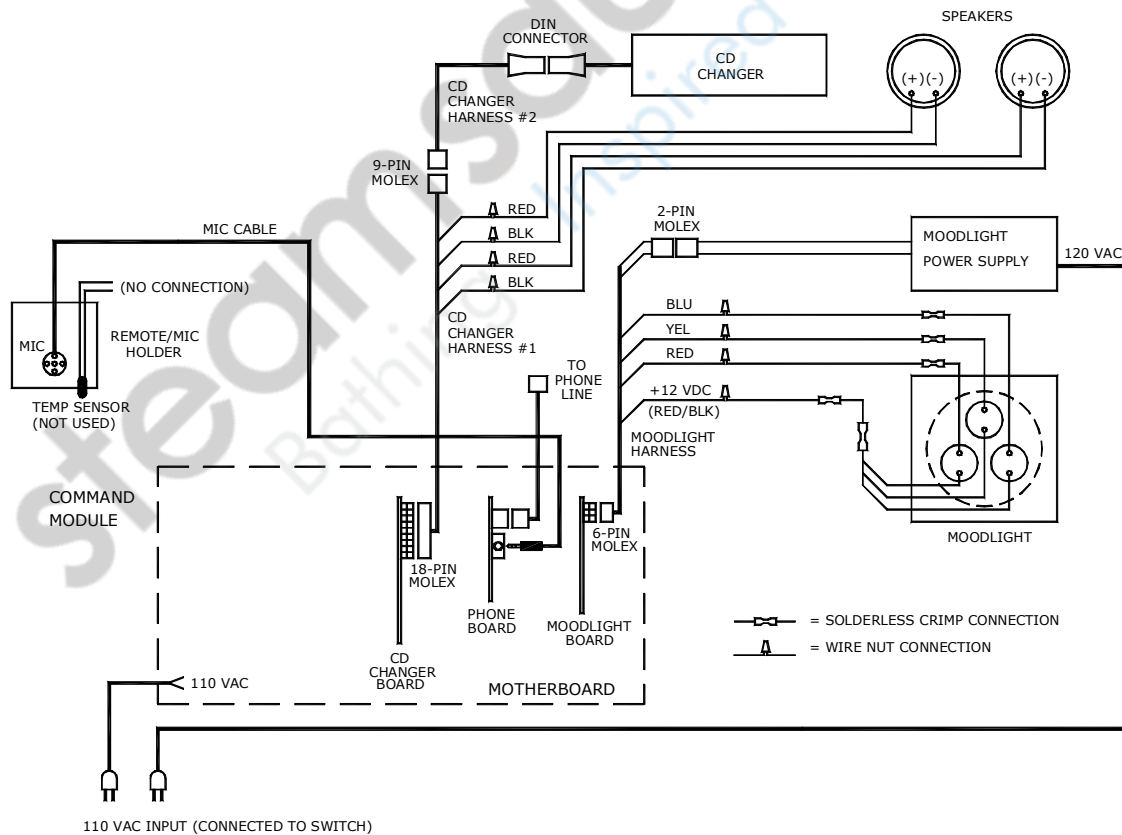

FIG. 5 Ambiance Environment Wiring Diagram (all 3 options).
7. Install 18 AWG wire for Moodlight from the Command Module location (Moodlight PCB) to the location where the Moodlight will be placed (if Moodlight option is used). See **FIG. 5** for wiring detail. Refer to Moodlight Installation Instructions for installing the Moodlight fixture.
8. Install 18 AWG wire for speakers from the Command Module to the location where the speakers will be placed (if Phone and/or CD Changer option is used). See **FIG. 5** for wiring detail. Refer to Installation Instructions: Speakers – CD Changer - Phone for installing these components.
10. Connect the various components of the Ambiance Environment System as shown in the following wiring diagram (see FIG. 5). All wiring for the system exits out the holes in the back of the Command Module.